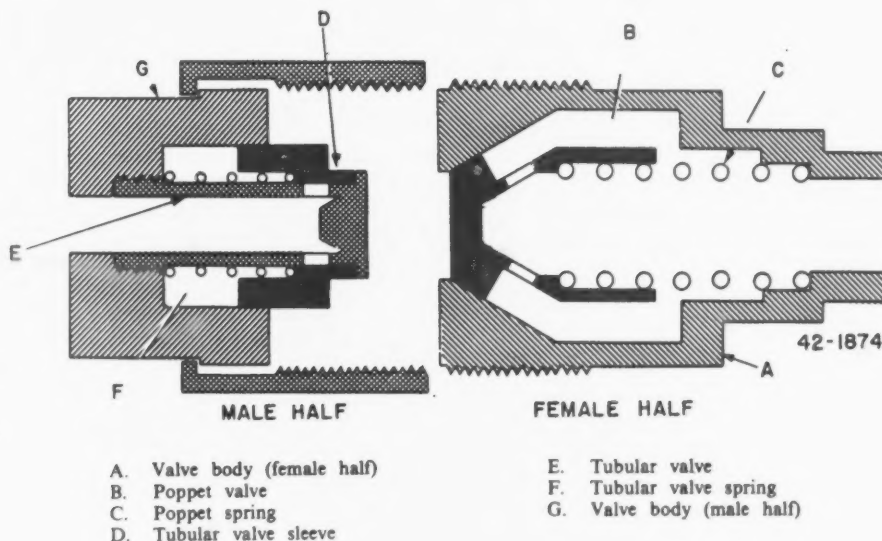

Figure 2-6. Quick disconnect (disconnected).
Figure 2-6 shows the two halves separated. In the female half, the poppet spring (C) is pushing the poppet valve (B) on seat against the valve body (A). In the male half, the tubular valve spring (F) is pushing the tubular valve sleeve (D) so that it covers the holes in the tubular valve (E).